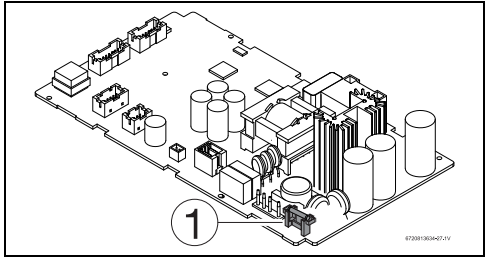

Fig. 25 Fuse position
- Check the fuse on the printed circuit board for electrical continuity, see fig. 25, [1].